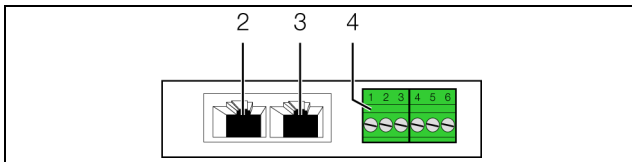

Fig. 9: Rear of the universal sensor
A multi-LED for the status display is integrated into the front of the universal sensor (fig. 8, item 1). Further LEDs are located at the rear on the CAN bus connection (fig. 9, item 2 and item 3).